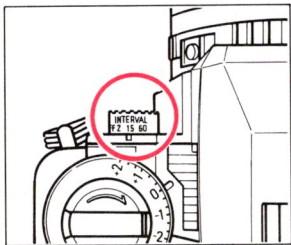

Fig. 63
2. Turn the Self/Interval Timer to 2 sec., 15 sec. or 60 sec. as desired. (Fig. 63)